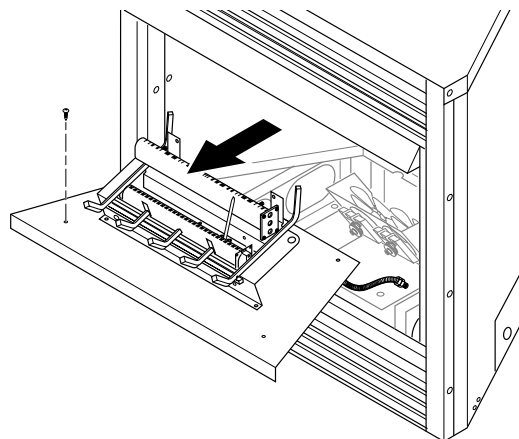

Figure 17 - Removing Log Base Assembly From Fireplace
3. Remove screws that attach log base assembly to fireplace (see Figure 17).
Carefully lift up log base assembly and remove from fireplace (see Figure 17).